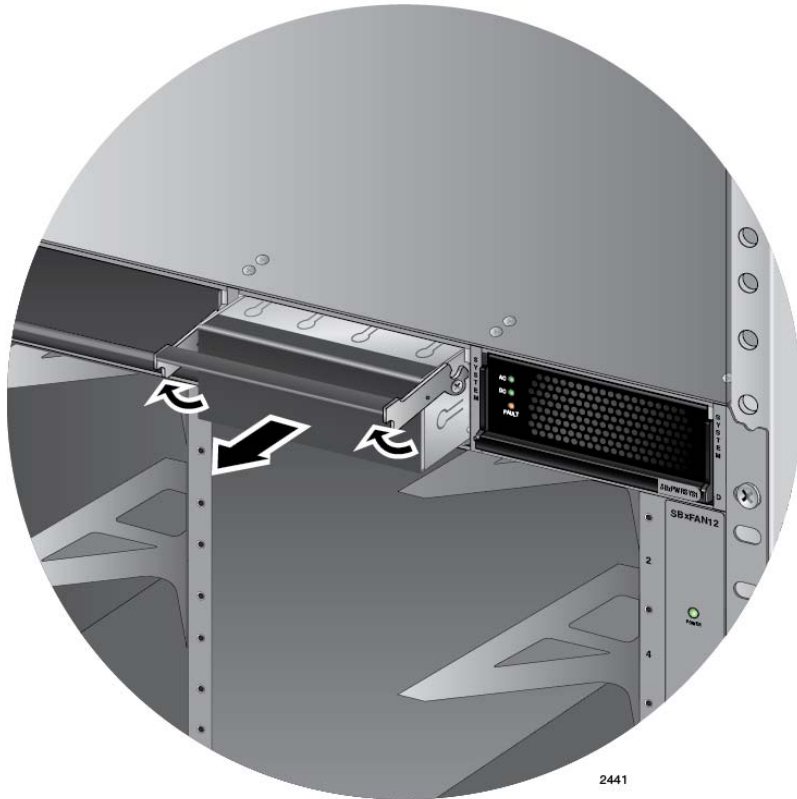

Figure 43. Removing the Blank Slot Cover from Power Supply Slot C
2. If the chassis already has a power supply in slot D, remove the blank power supply panel from slot C by lifting the blank panel handle and sliding it out of the slot, as shown in Figure 43 on page 108.